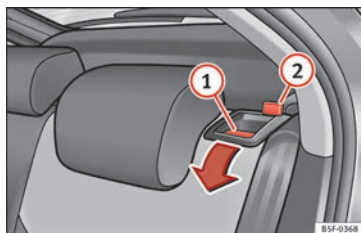

Fig. 150 Backrest release lever.
- Press the release lever » **Fig. 150 1** in the direction of the arrow.
- Raise the backrest until it engages in its upright position » **⚠**. The red marking on the tab » **Fig. 150 2** should no longer be visible when the backrest is properly secured.